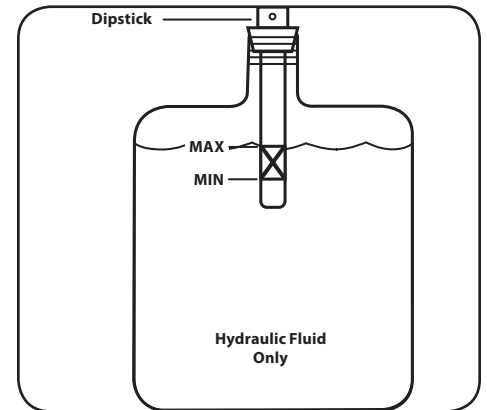

Figure 4-4
13. If necessary, refill the reservoir within range marked on the dipstick. See Figure 4-4.